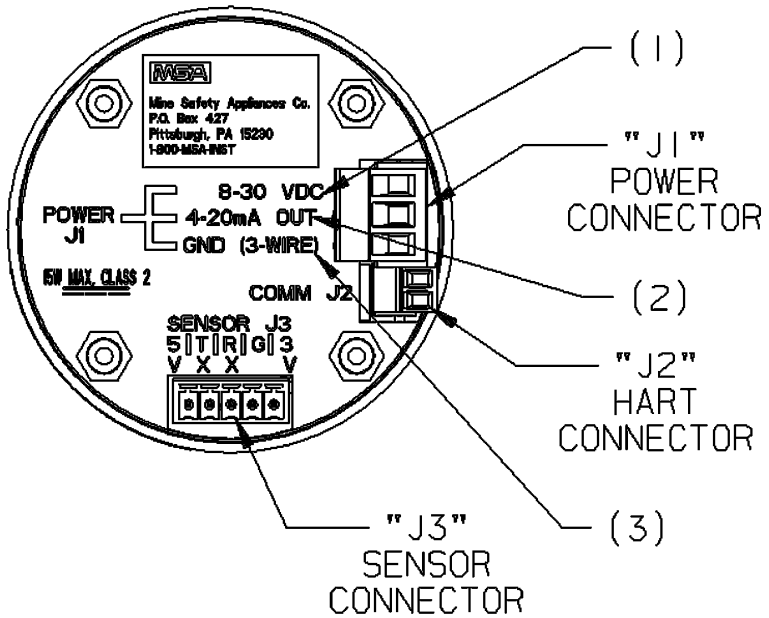

Fig. 9 Circuit Board
- (1) Connect 24 VDC power lead to J1-1 [→ Fig. 9].
- (2) Connect J1-2 to 4 to 20 mA input on remote system.
- (3) Connect the signal ground to J1-3.
- (4) Connect the sensor module to labeled connector J-3 on the main pc board.
- (5) Assemble lid on enclosure.